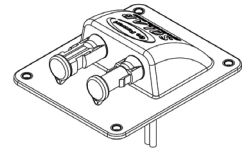

FIGURE 3-A: CEP
5. Identify on your RV if you have a Cable Entry Plate (CEP) see Fig 3-A pre-installed by the RV Manufacturer. The Cable Entry Plate makes the Solar Panel to Solar Charge Controller installation simpler. (After market purchase of GP-CEP available)